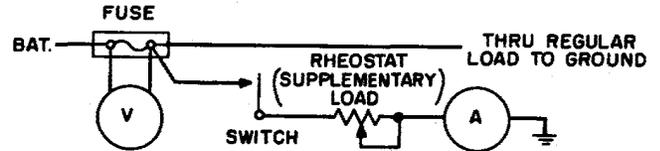

Fig. 2 - Test Circuit
5.02 The supplementary load should be about 5 to 10 per cent of the fuse rating. Smaller supplementary loads result in less dependable estimates. Larger supplementary loads may overload the fuse if the regular load is near fuse rating. The desired supplementary current may be arrived at by using a rheostat as shown in Fig. 2 or with a fixed resistance of the value shown in the following table. Resistance values are not listed in the table for smaller fuses or for fuses of the size usually located in fuse and switch units since with such fuses, the procedure per Part 4 seems more convenient. The tapped resistor should not be used for more than 15 seconds out of each 90 seconds. Avoid burns from hot resistors.
5.03 For this test, connect in series between the load side of the fuse and ground, a switch, a rheostat or resistor of suitable capacity, and a dc ammeter of required range. See Fig. 2.